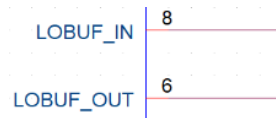

Figure 4-3 Reference circuit for LOBUF pins in single-chip configuration
Pins 6 and 8 of the S5KM312CL chip are used for local oscillator (LO) signal input and output, respectively. In single-chip applications, refer to Figure 4-3 for the circuit configuration.